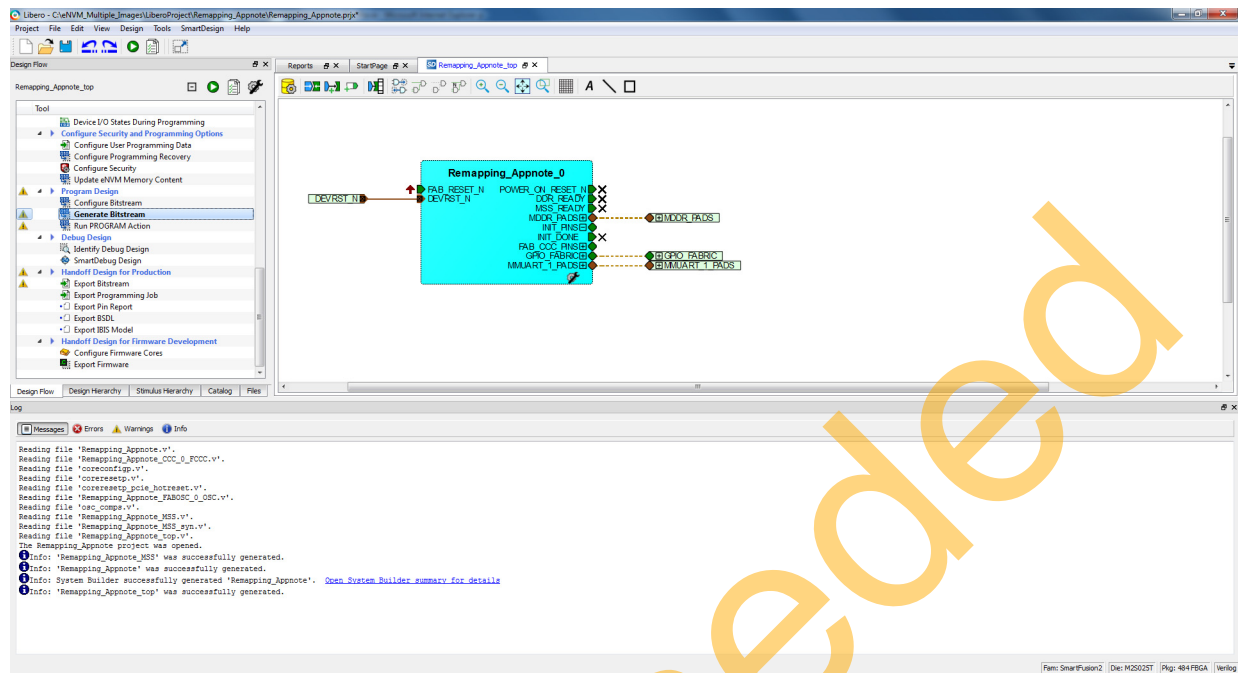
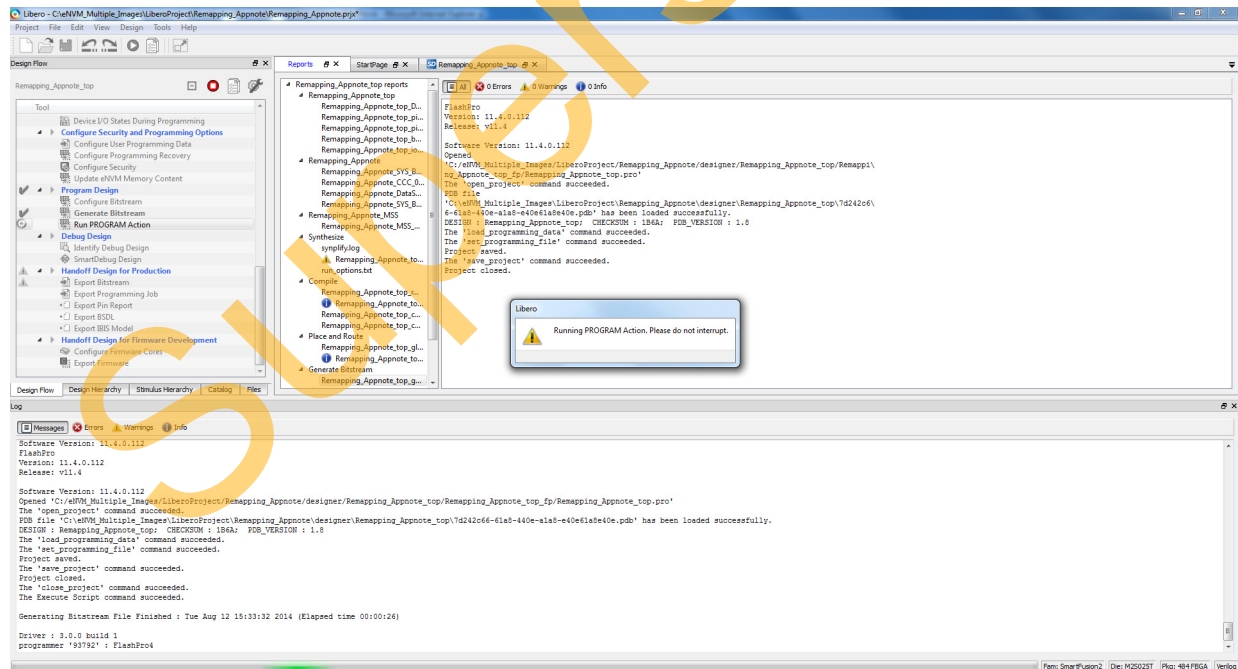

Figure 46 • Regenerating Remapping_Appnote_0 Component
Figure 47 • Programming SmartFusion2 SoC Evaluation Kit
11. Click **Run PROGRAM Action** to program the SmartFusion2 SoC FPGA to initialize the eNVM with the memory file as shown in Figure 46 and Figure 47.